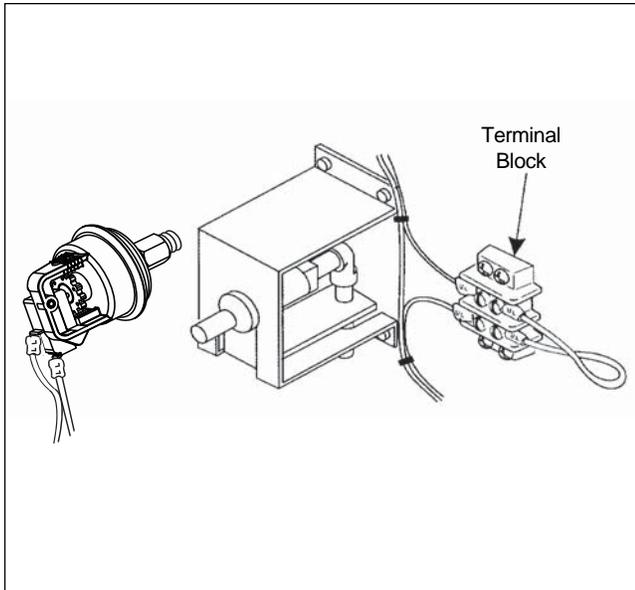

Figure 5. Terminal block.
20. Connect the white wire labeled PS to the pressure switch and the other white wire to its original location at the terminal block (see Figure 5).
2. Remove the factory-installed wire between terminals 1 and 2 on the terminal block (see Figure 5).